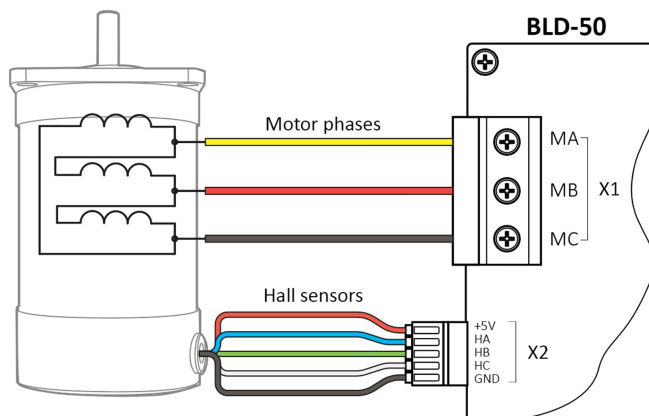

Fig.7 Motor connection diagram.
2. Connect the motor. An example of connection is shown in Figure 7. Motor phases must be connected to terminals MA, MB, MC of the connector X1. Hall sensor signals must be connected to terminals HA, HB, HC of the connector X2. GND of HALL sensors must be connected to the terminal GND and supply of HALL sensor signals must be connected to the terminal +5V of the connector X2.